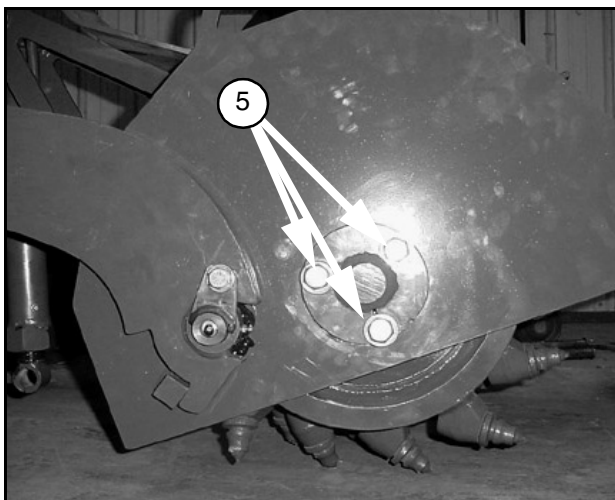

Figure 18.
8. Lower the chassis until the drum just touches the ground as shown in Figure 18.
9. Remove the three dead shaft bolts (5).